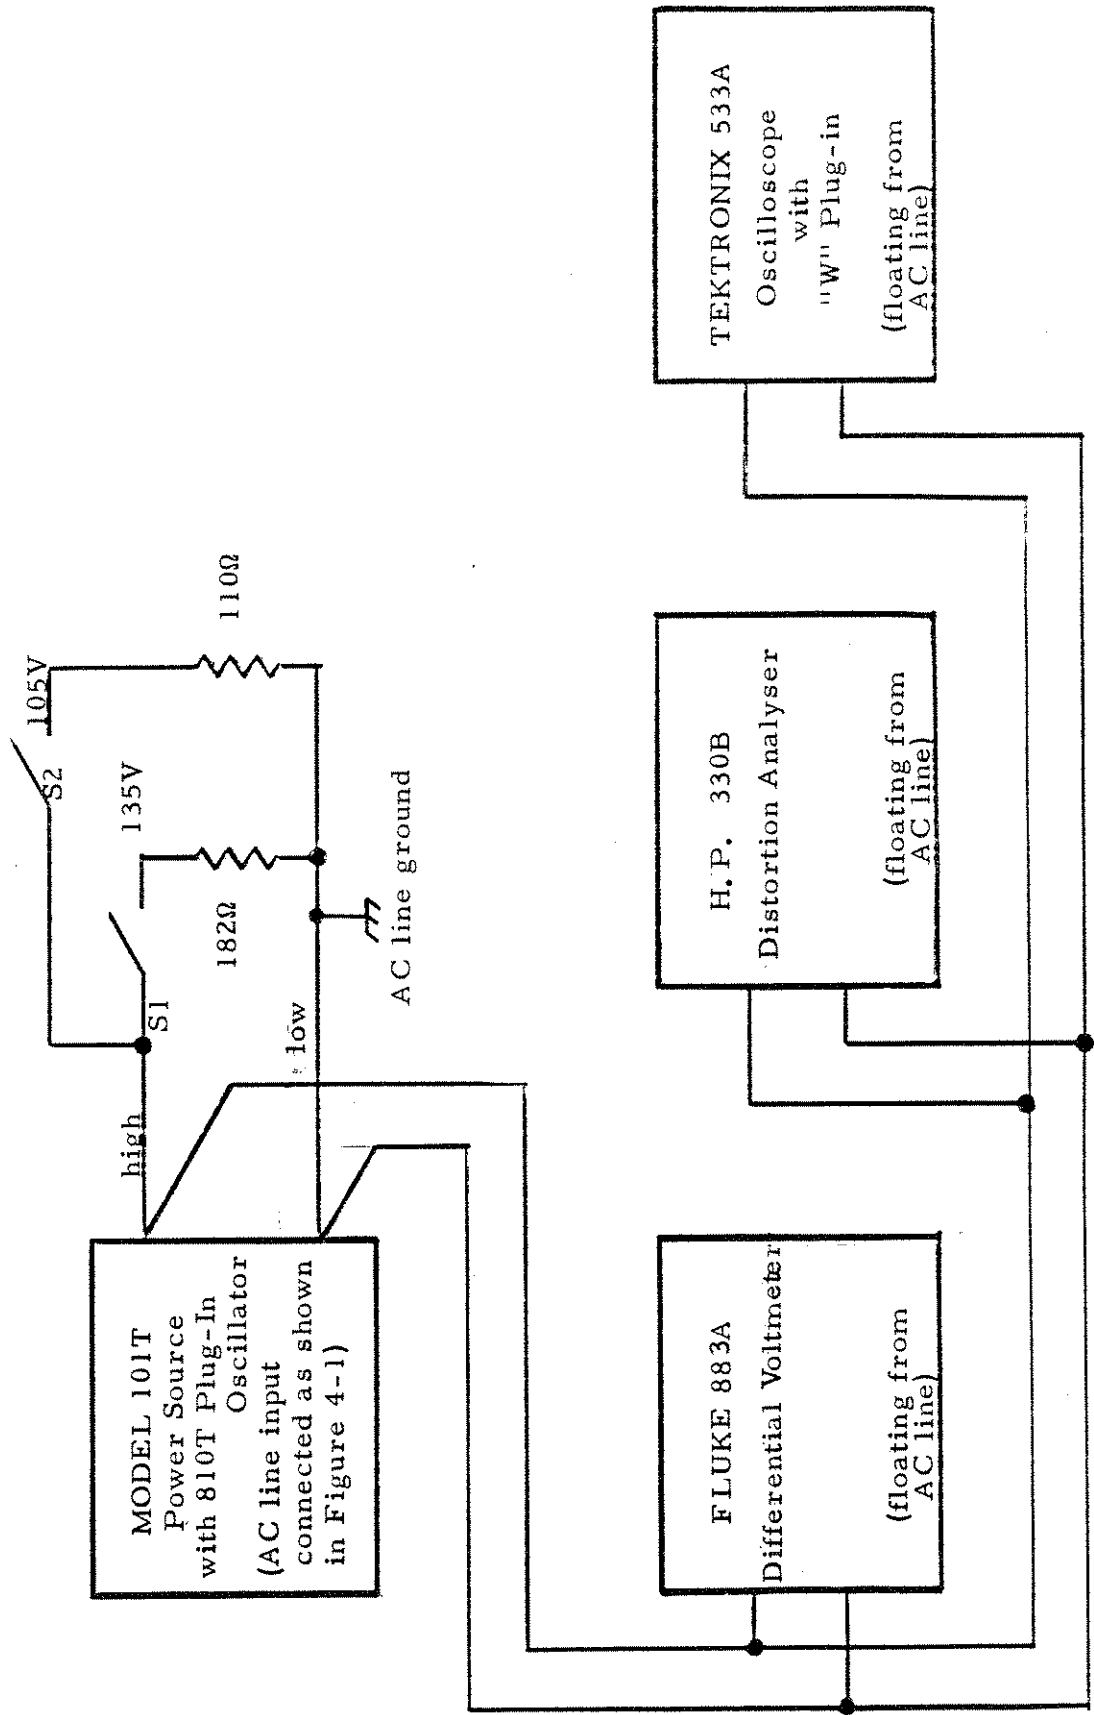
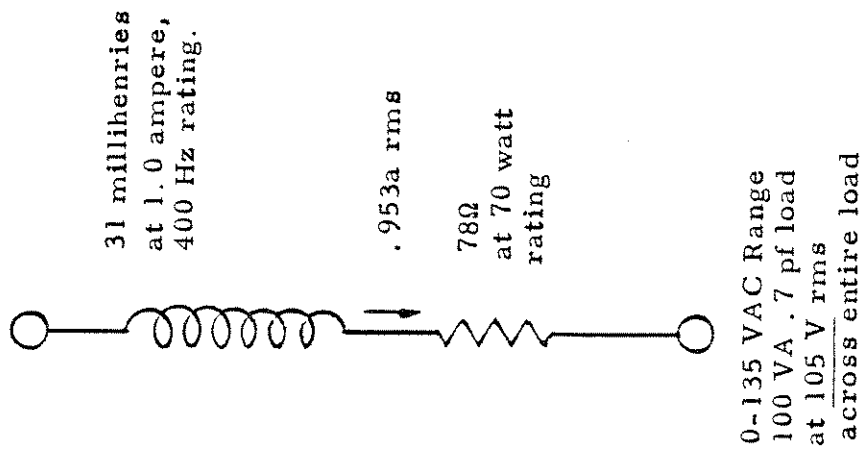
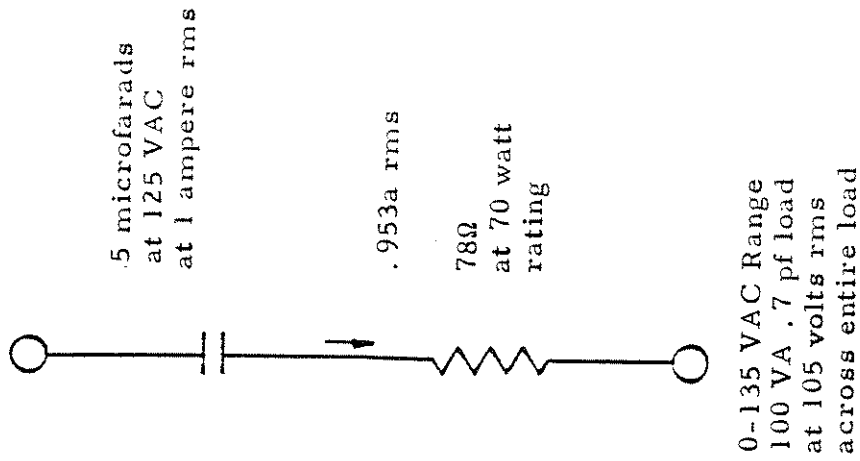

FIGURE 4-3. Test circuit for Model 101T Power Source
FIGURE 4-4. Circuit for 100VA, 0.7
FIGURE 4-5. Circuit for 100VA, 0.7
- 4.4.1 Connect the Model 101T Power Source as shown in Figure 4-3. Adjust the output voltage of the power source to 105 volts rms (78 per cent of rated output voltage) at 400 Hz. Close switch S2 (110 ohm load) and readjust the output voltage slightly, if required, in order to maintain a 105 volt output. The power source should deliver a clean sine wave output with less than 0.30 per cent distortion. Vary the frequency from 45 Hz to 10 KHz and check that the distortion does not exceed 0.50 per cent over the AC input line voltage range of 105 to 125 volts while maintaining the output voltage at 105 volts rms. Select zener diode A1CR13 so that no clipping or excessive distortion occurs on the positive peak of the output wave form under worst case conditions outlined above. Select resistor A1R49 so that no clipping or excessive distortion occurs on the negative peak of the output wave form under worst case conditions outlined above.
- 4.5.1 Connect the Model 101T Power Source as shown in Figure 4-3. Adjust the variac to provide a 115 VAC line input and allow the power source to warm up for a few minutes. Set the oscillator output to 400 Hz and adjust the output of the amplifier with the GAIN control to provide 135 volts rms (100% of rated output). Close switch S1 so that the 182 ohm load is across the output of the power source.
- 4.6.1 Connect the Model 101T Power Source as shown in Figure 4-3. Set the oscillator frequency to 400 Hz. Close switch S1 (182 ohm load) and adjust the output of the power amplifier to 135 volts rms (100 per cent of rated output voltage) at 400 Hz.
- 4.7.1 Connect the Model 101T Power Source as shown in Figure 4-3. Check that the load is connected to the large red and white binding posts at the rear of the power source. The output voltage may be monitored either at the rear or the front of the power source. If it is monitored at the rear of the power source, care should be taken to use four-wire sensing. Adjust the output voltage of the Model 101T Power Source to 105 V rms output (or 78 per cent of rated output voltage) at 400 Hz.
- 4.8.1 Connect the Model 101T Power Source as shown in Figure 4-3. Adjust the AC input line voltage to 115 volts rms. Adjust the output of the power source to provide 115 volts rms output (85.3 per cent of rated output voltage) at 400 Hz. Connect a 132 ohm (100 VA) load to the output terminals at the rear of the power source and check that the regulation control has been set to provide a zero output impedance.
- 4.9.1 Connect the Model 101T Power Source as shown in Figure 4-3. Adjust the input AC line voltage to 115 volts rms. Adjust the output of the power source to provide 135 volts output (100 per cent of rated output voltage) at 400 Hz.
- 4.10.1 Connect the Model 101T Power Source as shown in Figure 4-3. Adjust the line voltage to 115 volts rms. Adjust the output of the power source to provide 105 volts rms. (78% of rated output voltage) at 400 Hz.
- 4.11.1 Connect the Model 101T Power Source as shown in Figure 4-3. Figure 4-4 illustrates the load circuit and gives load parameter values for 100 VA 0.7 power factor at 400 Hz with 78 per cent of rated output voltage from the power source. This represents the worst case inductive load for maximum power dissipation inside the power source.
- 4. 12. 1 Connect the Model 101T Power Source as shown in Figure 4-3. Figure 4-5 illustrates the load circuit and gives load parameter values for 100 VA, 0. 7 power factor operation at 400Hz with 78 percent of rated output voltage from the power source. This represents the worst case capacitive load for maximum power dissipation inside the power source.